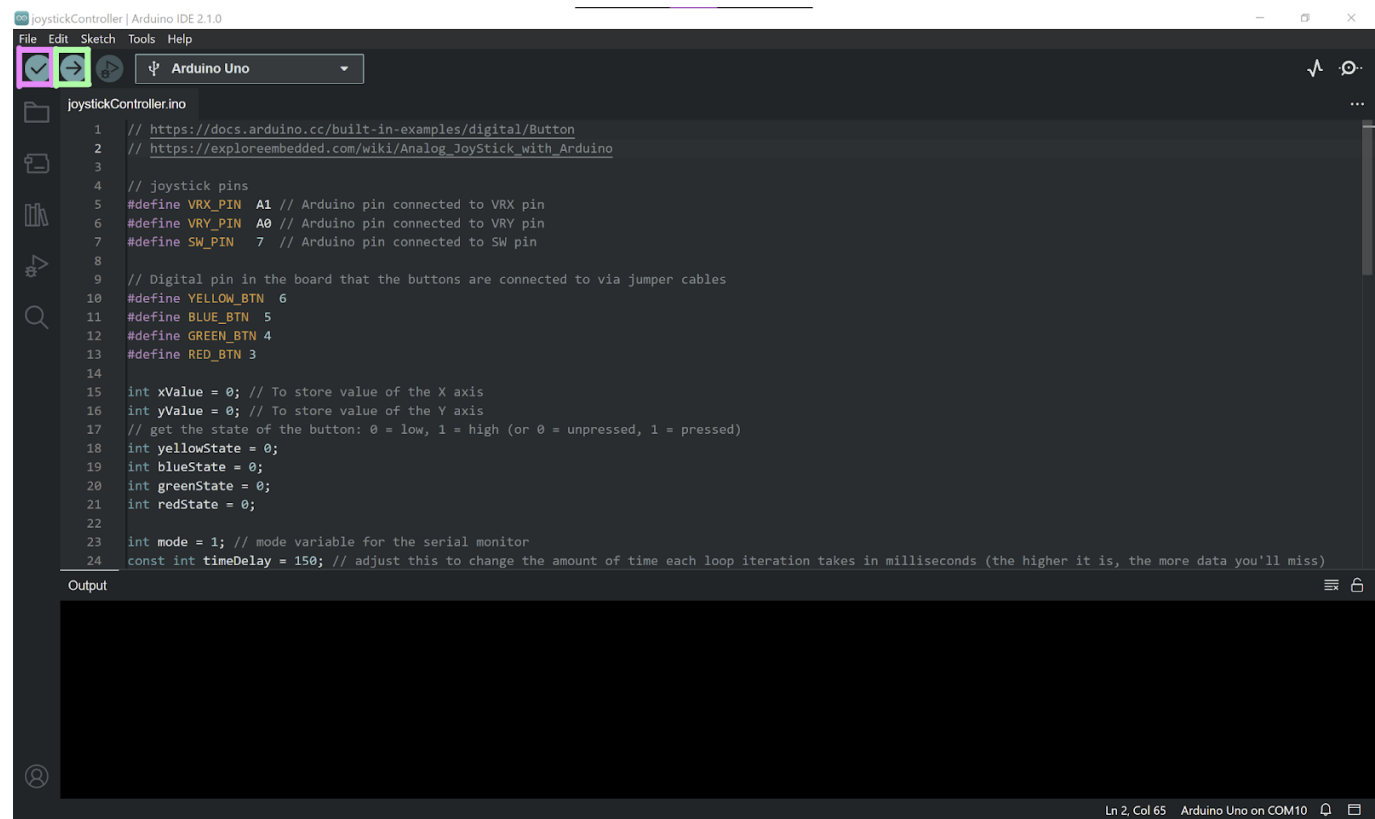

Figure 2: Verifying and Uploading the Sketch (the pink and green boxes respectively)
- Click the checkmark to verify the sketch (or in other words, check there are no issues with the code), and then click the arrow that points to the right which is next to the checkmark. This uploads the code to the board, don't disconnect it. *Refer to figure 2 for help.*